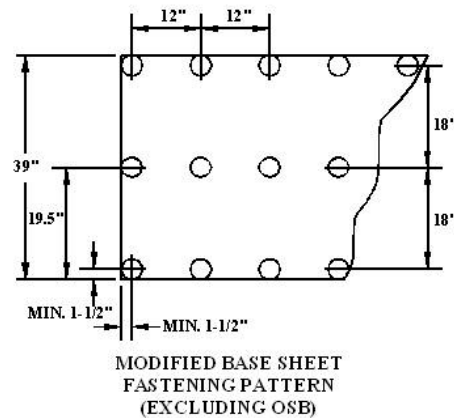

Figure 7
- a) When no insulation is specified and AFX Membrane is to be directly mopped to a Carlisle Modified Base Sheet. The base sheet must be fastened with Carlisle HP or HP-X Fasteners with 3" diameter insulation plates are used to attach the Carlisle Modified Base Sheet in rows 18" apart, 12" on center, refer to the fastening pattern in figure 7.